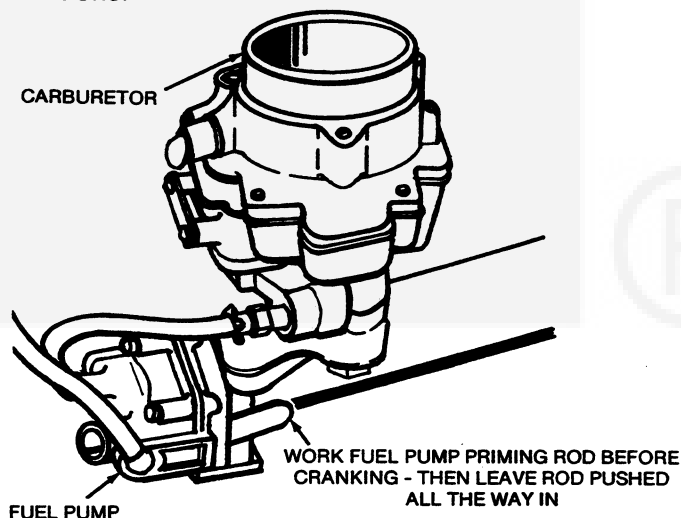

FIGURE 2. ENGINE PRIMING (MANUAL START)
1. Engine priming before starting is shown in Figure 2 (manual start only).